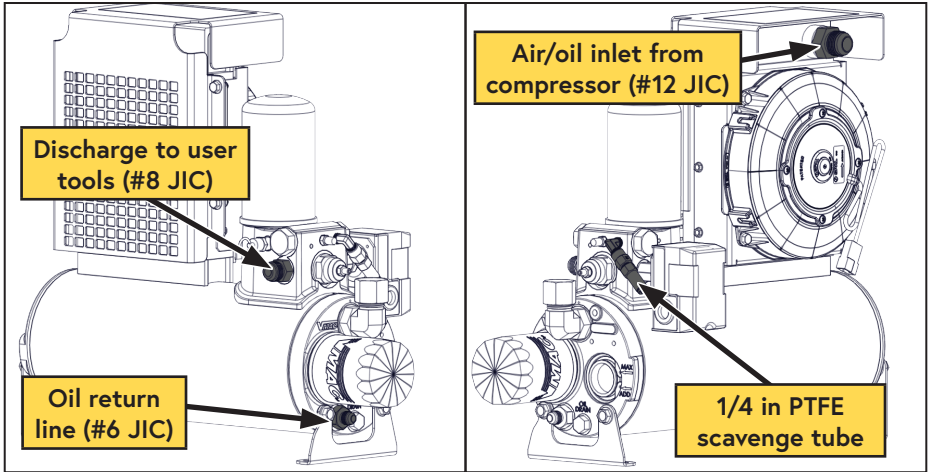

Figure 28 — WHASP Tank connections
- Connect the 90° fitting on the 3/4 in hose to the #12 JIC fitting (air/oil inlet) on the cooler above the fan (Figure 28).
- Connect the 90° fitting on the 3/8 in hose to the #6 JIC fitting (oil return fitting) beneath the oil filter on the tank (Figure 28).
- Connect the 1/4 in PTFE tube to the 1/4 in push-to-connect (oil scavenge) fitting near the coalescing filter (Figure 28).